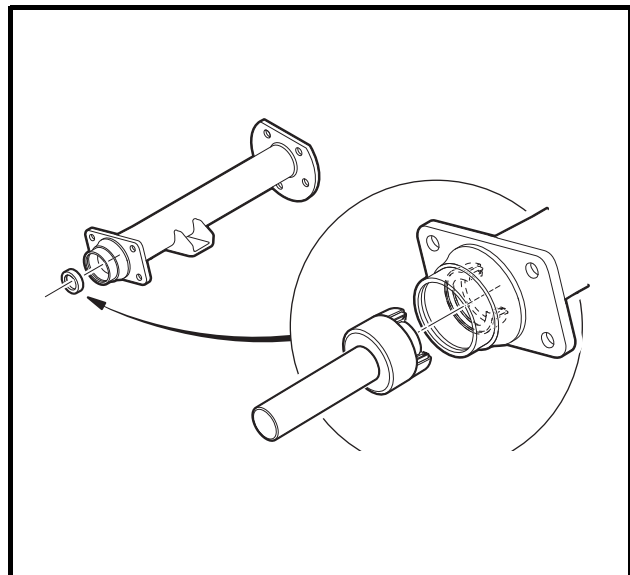

Figure 17-4 Axle Seal and Adapter Ring Installation
- 1.5. Place the oil seal and adapter ring assembly into the axle tube with the seal lip facing away from the bearing (**Figure 17-4, Page 17-2**). Use an axle seal tool (CC P/N 1014162) and mallet to tap it in until it seats firmly in position. **See following CAUTION.**